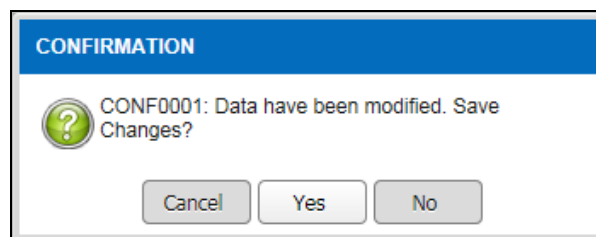

Figure 3.4.1-5 Confirmation Message
- Confirmation message will be displayed as Figure 3.4.1-5
- Click on the  button and information message will be displayed as Figure 3.4.1-6